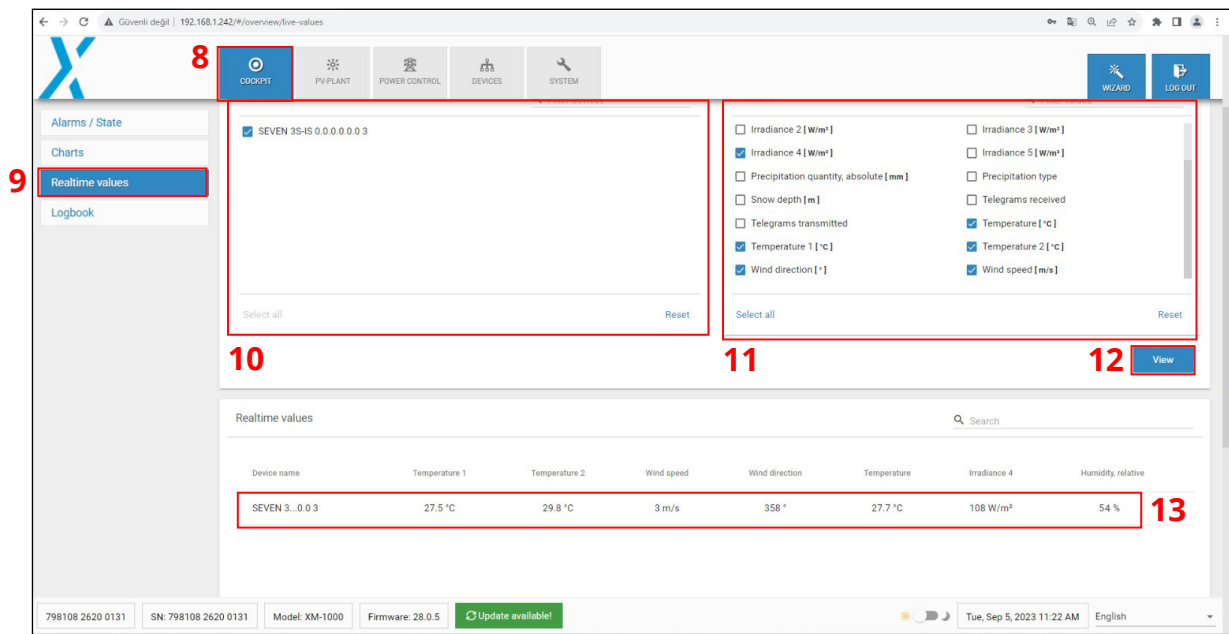

Figure 5: The Data of Seven Sensor Box
Step 13 : The data from the sensor will be displayed in the **"Realtime Values"** section as shown in Figure 5.